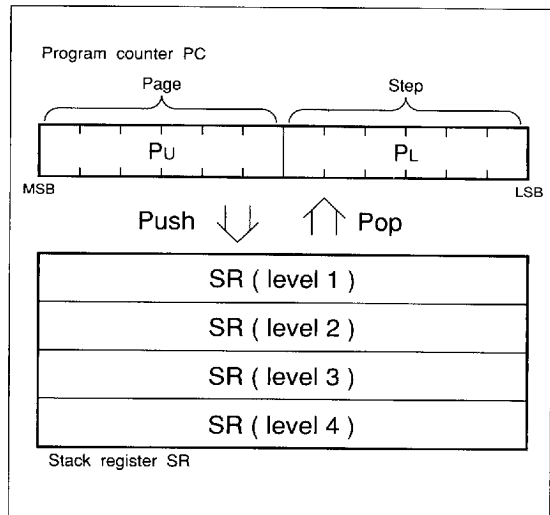

Fig. 8 Program Counter PC and Stack Register SR
A ROM address is specified by the program counter (PC). The PC comprises 12-bit where 6-bit (P_u) are used to specify the page (see Fig. 8) and 6-bit (P_L) are used to specify the step. P_u is a register and P_L is a binary counter.